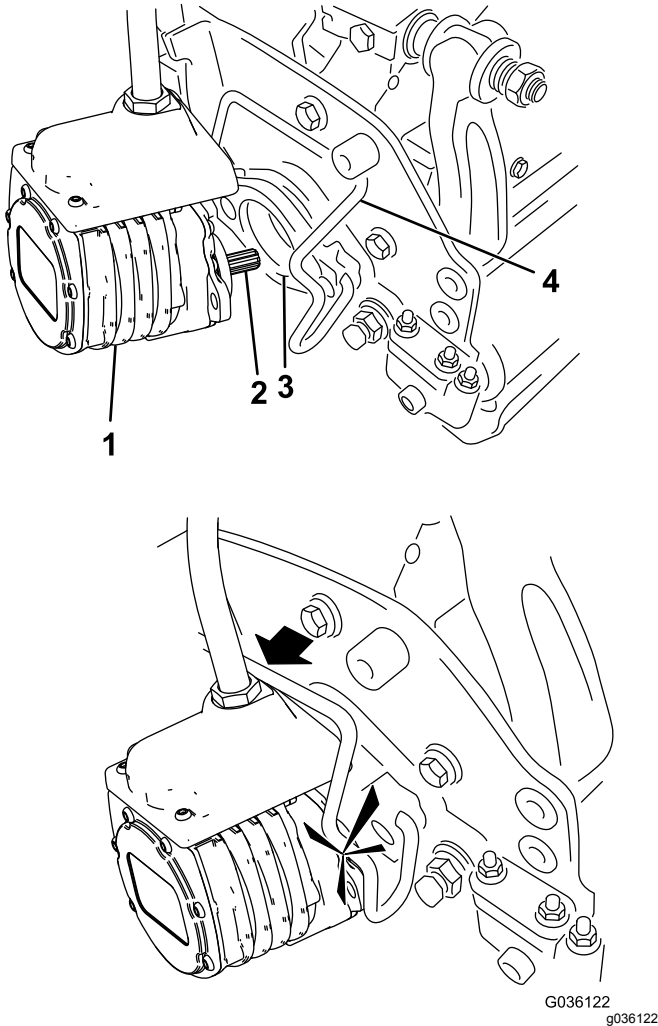

Figure 52
6. Coat the spline shaft of the cutting unit motor with clean grease (Figure 52).
7. Insert the motor into the left side of the cutting unit (as viewed from the operator's position) and pull the motor retaining bar on the cutting unit toward the motor until you hear a click from both sides of the motor (Figure 52).